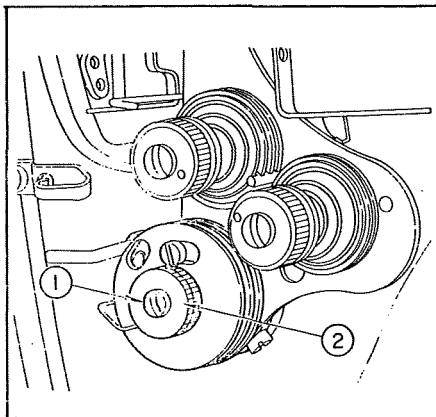

Fig. 13
For adjusting the tension of the thread take-up spring, turn the thread take-up spring stud ① of Fig.13. The tension is increased by clockwise turn and decreased by counterclockwise turn. After adjustment, lock it by tightening the thread tension post nut ② of Fig.13. Normally, the tension of the thread take-up spring is about 20 g. and the stroke is 7mm(9/32") to 10mm(13/32"). When you sew a very light fabric or a synthetic fiber material, you must lessen the spring tension and increase it's stroke.